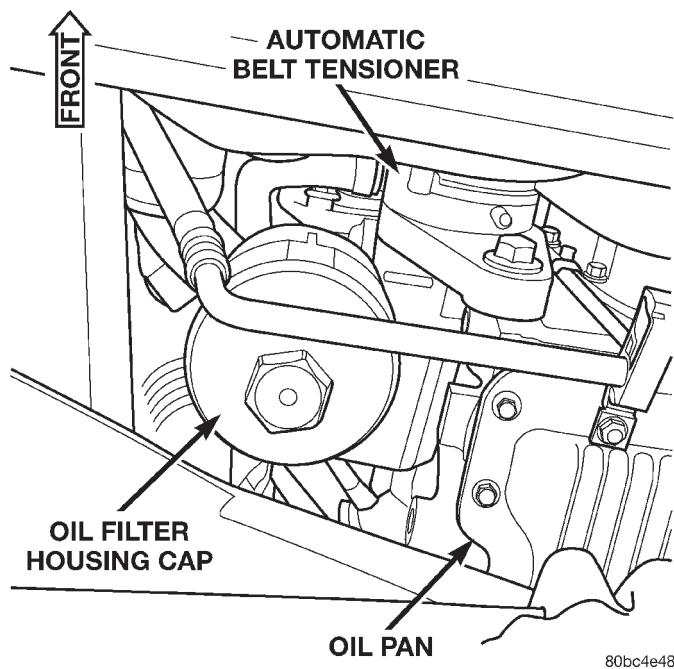

Fig. 93 Oil Filter Housing Cap
- (1) Raise the vehicle on a hoist.
- (2) Position a drainpan under the oil filter housing (Fig. 93).
- (3) Remove the oil filter housing drain plug. Located in the center of the housing cap. Drain the engine oil from the oil filter housing.